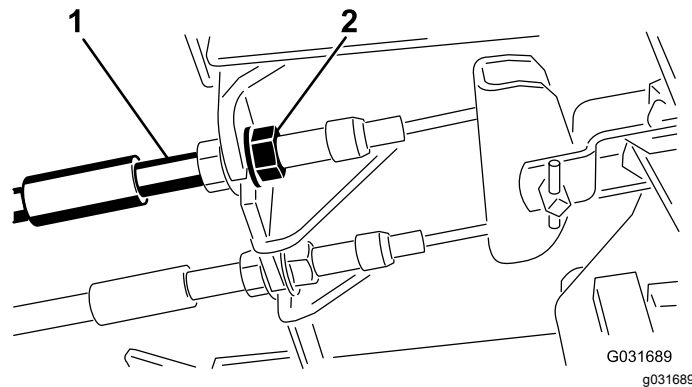

Figure 52
1. To reduce free travel of the brake pedals, tighten the brakes by loosening the front nut on the threaded end of the brake cable (Figure 52).